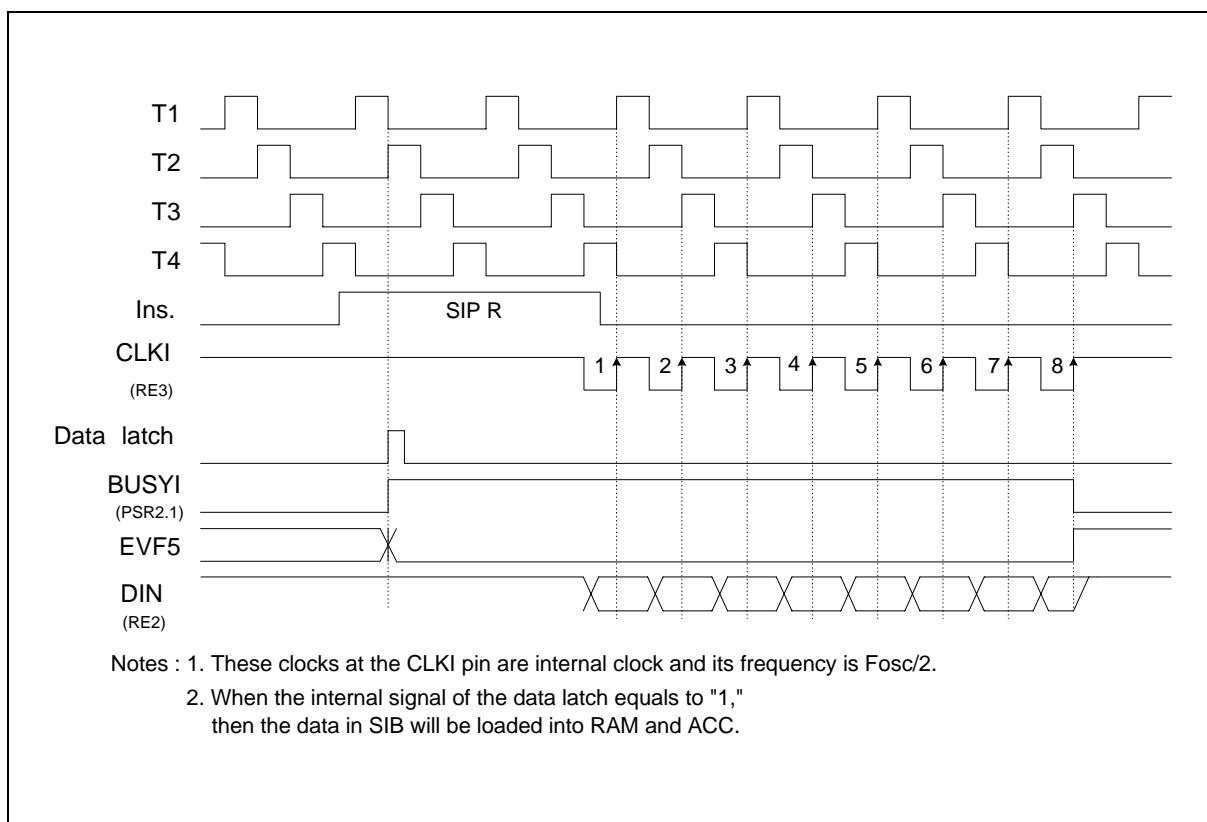

Figure 11. Timing of the Serial Input Function (SIP R)
(1) When the SIP R instruction is executed, the data will be loaded from the serial input buffer to the ACC and RAM first, and bit 1 of port status register 2 will automatically be set to "1" (BUSYI = 1). Then the CLK1 pin will send out 8 clocks and the data from the DIN pin will be loaded to SIB at the rising edge of the CLK1 pin. After the 8 clocks have been sent, BUSYI will be reset to "0" and EVF5 will be set to "1." At this time, if IEF.5 has been set (IEF.5 = 1), an interrupt is executed; if HEF.5 has been set (HEF.5 = 1), the hold state is terminated. Users can check the status of PSR2.1 (BUSYI) to know whether the serial input process is completed or not. If a serial input process is not completed, and the SIP R instruction is executed again, the data will be lost. The timing is shown in Figure 11.